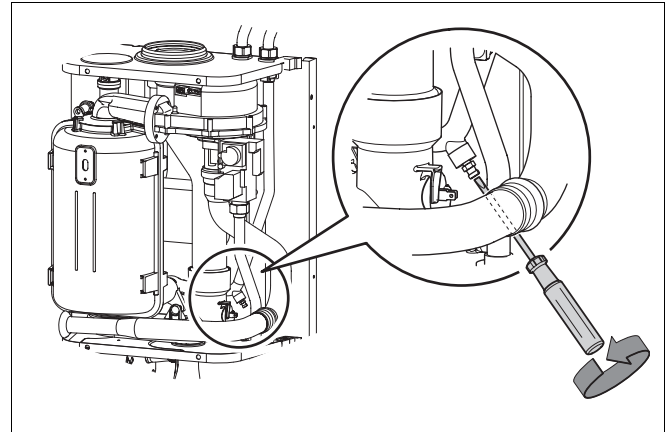

Fig. 32 Draining the boiler
- Loosen the draining nipple with a screwdriver see fig. 32.